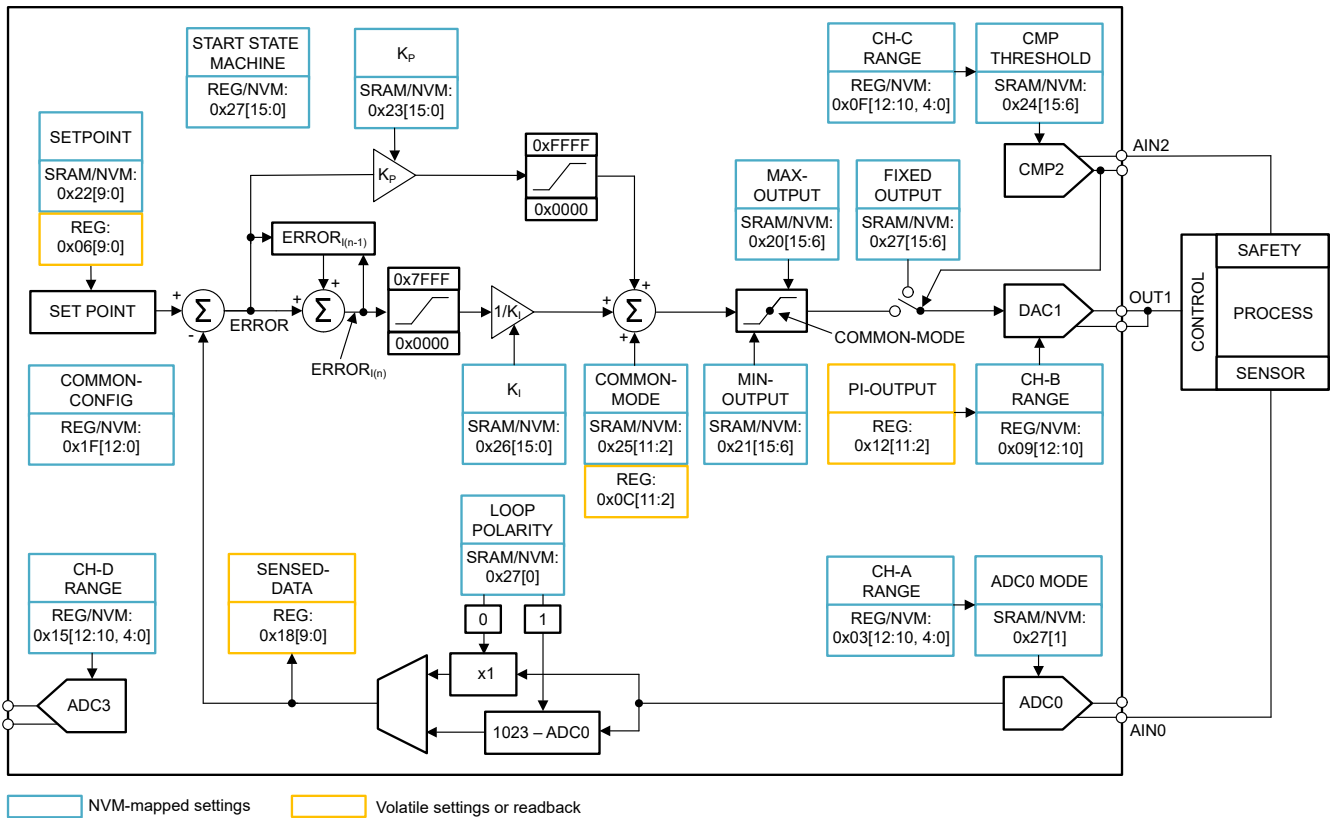

Figure 7-8. PI Controller Architecture
The AFE539A4 provides a preprogrammed PI controller state machine. Figure 7-8 shows the PI controller architecture. ADC channel 0 is used as the input and DAC channel 1 is used as the output. DAC channel 2 is used as a comparator that is used to set the output of DAC channel 1 to a value specified by the FIXED-OUTPUT field. Table 7-9 lists all the input/output pin names and functions.
2. Connect the ADC input, comparator input, and DAC output as shown in 图 7-8.